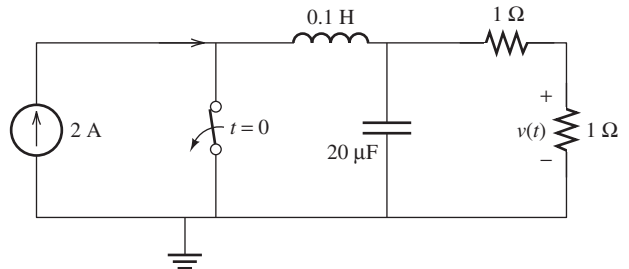

FIGURE P5.59 Circuit for Problem 5.59.
5.59 (A) Consider the circuit shown in Figure P5.59. The switch is opened at $t = 0$, find $v(0^+)$ and $v(\infty)$ using PSpice.